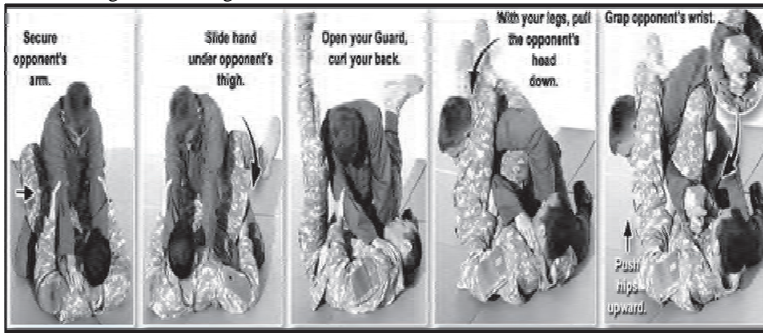

Figure 071-COM-0512-13. Straight Arm Bar from the Guard.
(12) Apply steady pressure by trapping your opponent's wrist on your chest, and arching your hips skyward.
e. Achieve the Straight Arm Bar from the Guard. (Figure 071-COM-0512-13)